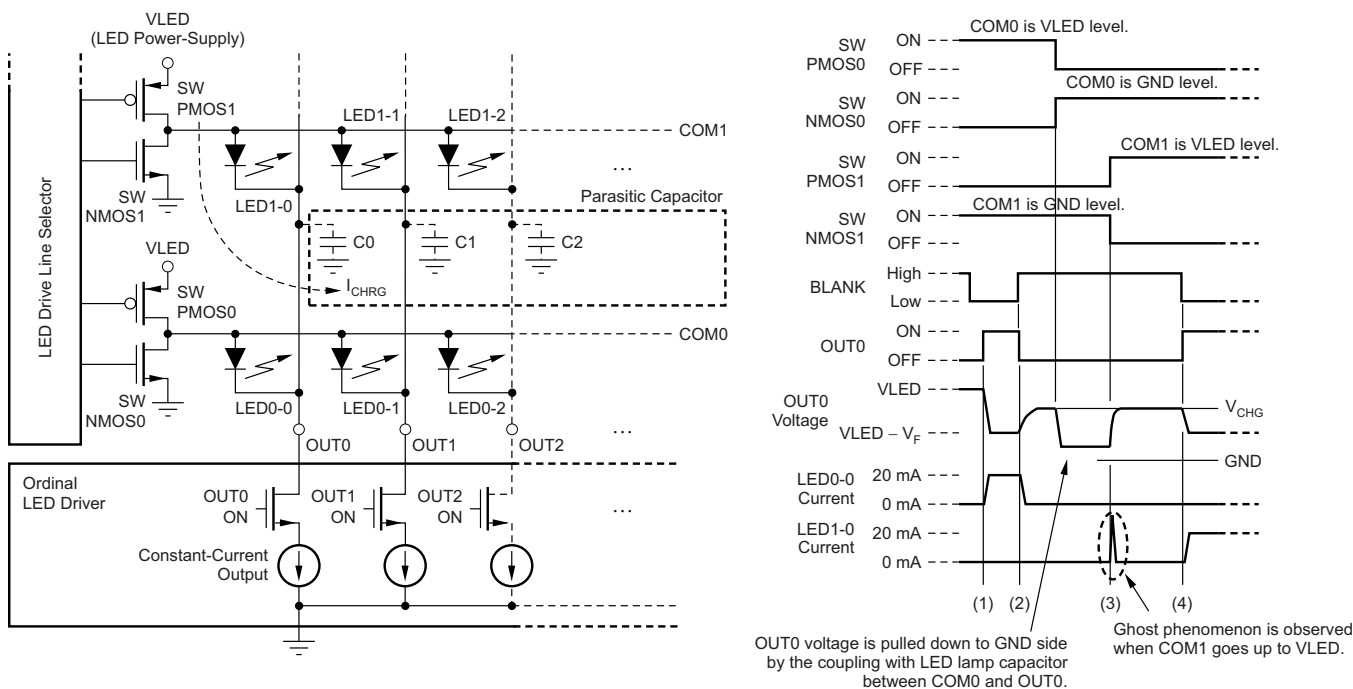

Figure 23. LED Ghost-Lighting Phenomenon Mechanism
The internal pre-charge FET prevents ghosting of multiplexed LED modules. One cause of this phenomenon is the parasitic capacitance charging current of the constant-current outputs (OUT_n) and PCB wiring connected to OUT_n through the LED. One of the mechanisms is shown in Figure 23.
In Figure 23, the constant-current driver turns LED0-0 on at (1) and off at (2). After LED0-0 is turned off, the OUT0 voltage is pulled up to V_{CHG} by LED0-0. This OUT0 node has some parasitic capacitance (such as the constant-current driver output capacitance and the board layout capacitance shown as C0-2). After LED0-0 turns off, SWPMOS0 is turned off, SWNMOS0 is turned on for COM0, and COM0 is pulled down to GND. Because there is a parasitic capacitance between COM0 and OUT0, the OUT0 voltage is also pulled down to GND. Afterwards, SWPMOS1 is turned on for the next common line (COM1). When SWPMOS1 turns on, the OUT0 voltage is pulled up from the ground voltage to V_{LED} – V_F. The charge current (I_{CHRG}) flows to the parasitic capacitor (C0) through LED1-0, causing the LED to briefly turn on and creating a ghosting effect of LED1-0.